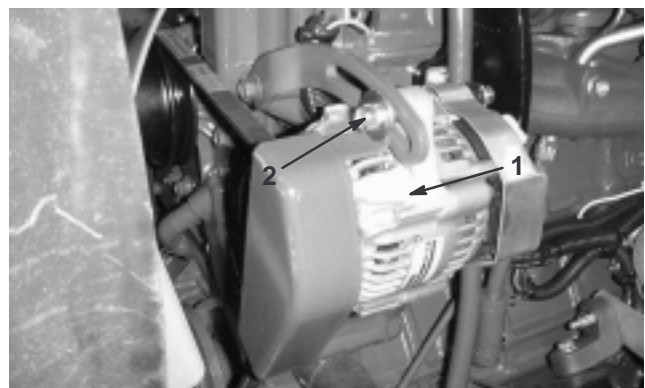

Figure 35
Check the condition and tension of the belts (Fig. 35) after every 100 operating hours.
- If the deflection is not 3/8 in. (10 mm), loosen the alternator mounting bolts (Fig. 35). Increase or decrease the alternator belt tension and tighten the bolts. Check the deflection of the belt again to ensure that the tension is correct.